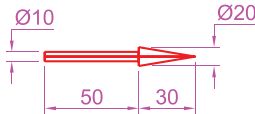

Fig. 14.14 Third example – a **Polar Array** – the 3D model to be arrayed
1. Working on a layer of colour red, construct a solid of revolution in the form of an arrow to the dimensions as shown in Fig. 14.14.